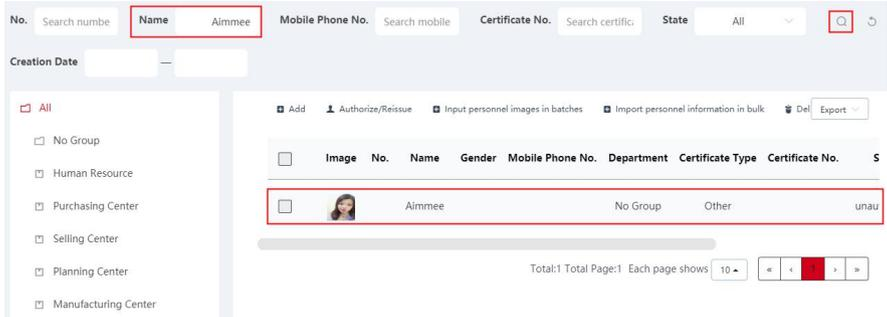

Figure 5-52
Step 3: At the top of the interface, enter a piece of information (such as NO., Name, Mobile Phone NO., Certificate NO., or state) of the search person, click "🔍", search results will be displayed in the people list, as shown in Figure 5-52 below.